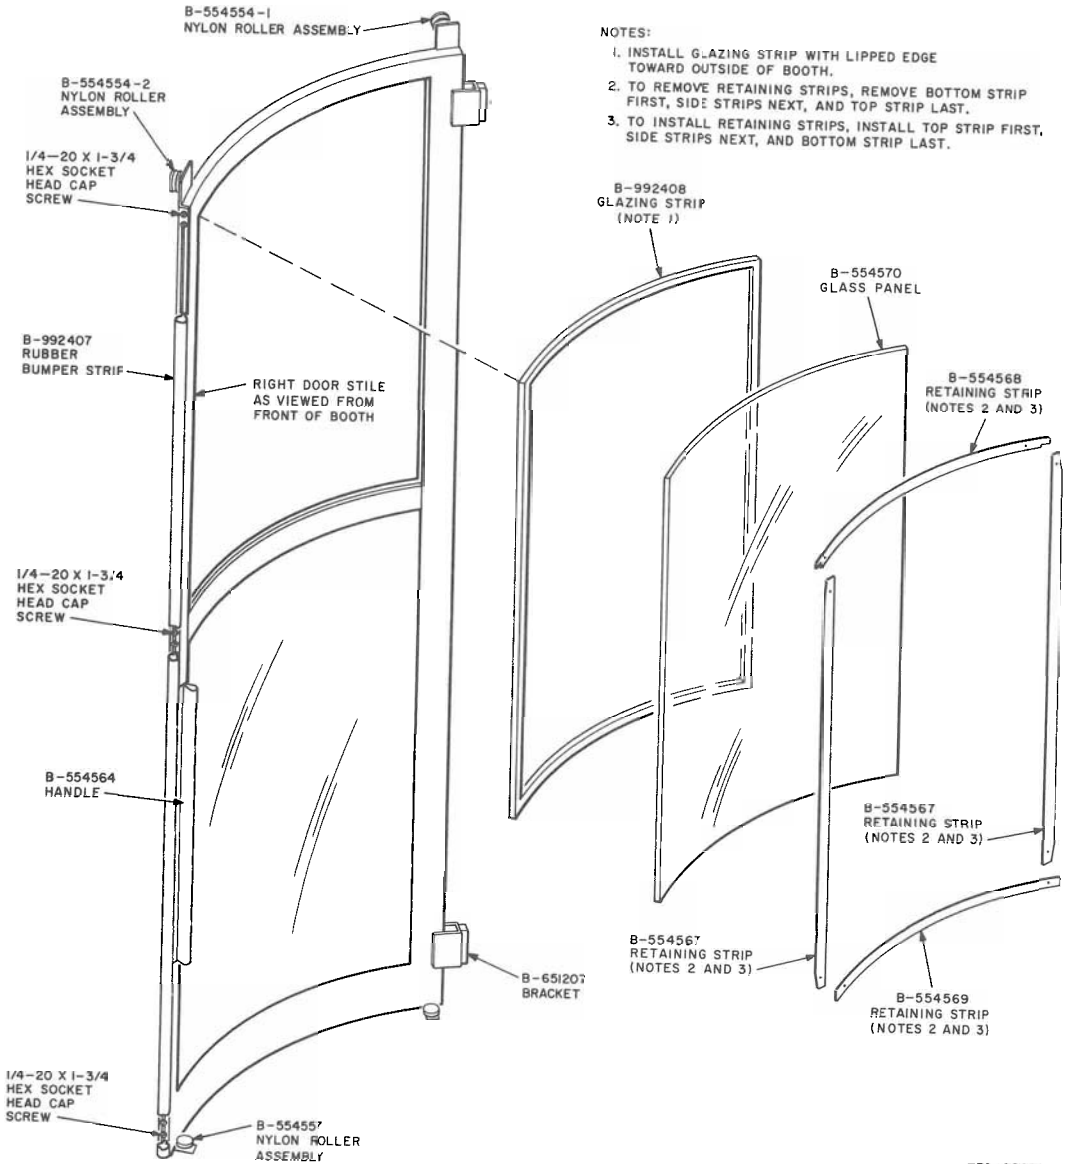

Fig. 10—B-554510 Door Assembly
- (c) Refer to Fig. 10 and remove the retaining strips in the order shown.
- (h) Install the retaining strips in accordance with Fig. 10.
- (i) Secure the right door stile by tightening the six hex socket head cap screws (Fig. 10).